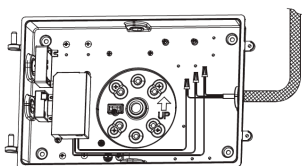

Fig. 2.7
6. Connect the luminaire's wires (L, N, G) to the power supply. (Fig. 2.7)